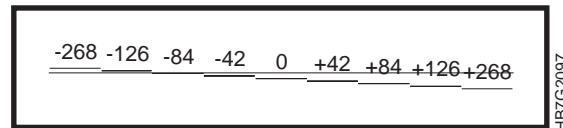

Figure 185. Horizontal Control
1. Find the front-to-back registration area on the X-side of the page. The horizontal control, as shown in Figure 185, is on top of the word “IBM”.